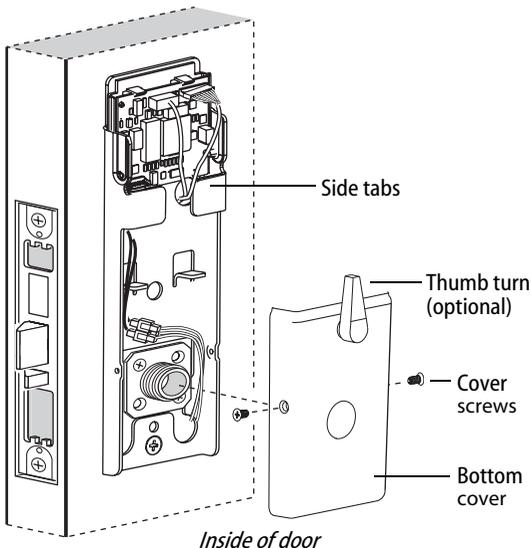

Figure 16 Installing the bottom cover
- 1 Position the battery wires above the side tabs and against the side of the fire plate, as shown in Figure 16.
- 2 **Optional for Thumb Turn option only:** Make sure that the Thumb Turn is in the upright position, as shown in Figure 16.